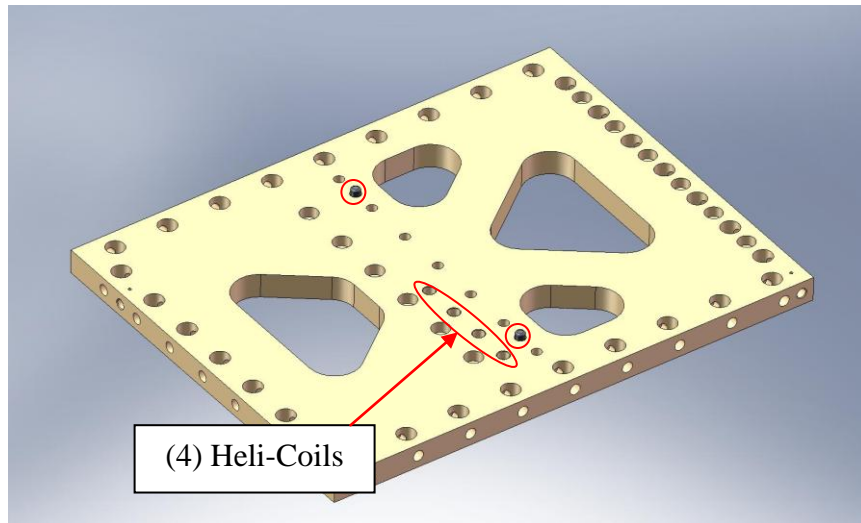

Figure 2.4. Dowel pins pressed into side of Radial Rib (D071069). Heli-Coils are installed from the same side as the pins are pressed.
- Insert Heli-Coils into (3) **Rib, Rad, Flexure Out 2** plates (D071069):
- Press (2) 3/8"x.75" dowel pins (McMaster-Carr #90145A622) into side of each of (3) **Rib, Rad, Flexure Out 2** plates (D071069) as shown in Figure 2.4. Pins should stand .25" proud of mating surface. *Do not press pins into bottom of this plate, yet!*